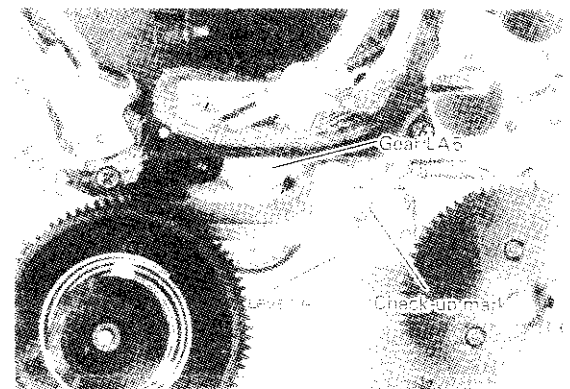
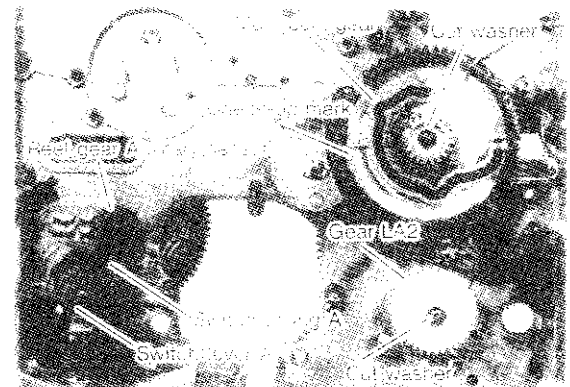

Fig 3-22-1
Fig 3-22-2
- (1) Turn the gear LA5 counter-clockwise to change the supply & Takeup tape guide to unloading mode. (See Fig. 3-22-1).
- (2) Slide the lever A to left and match the check-up mark of the cam plate assembly.
- (3) Attach the main cam gear onto the main shaft so that the check-up mark of the main cam gear matches the check-up mark of the cam plate, then fix with the cut washer. (See Fig. 3-22-2).
- (4) Attach the gear LA2 onto the main shaft and fix with the cut washer.